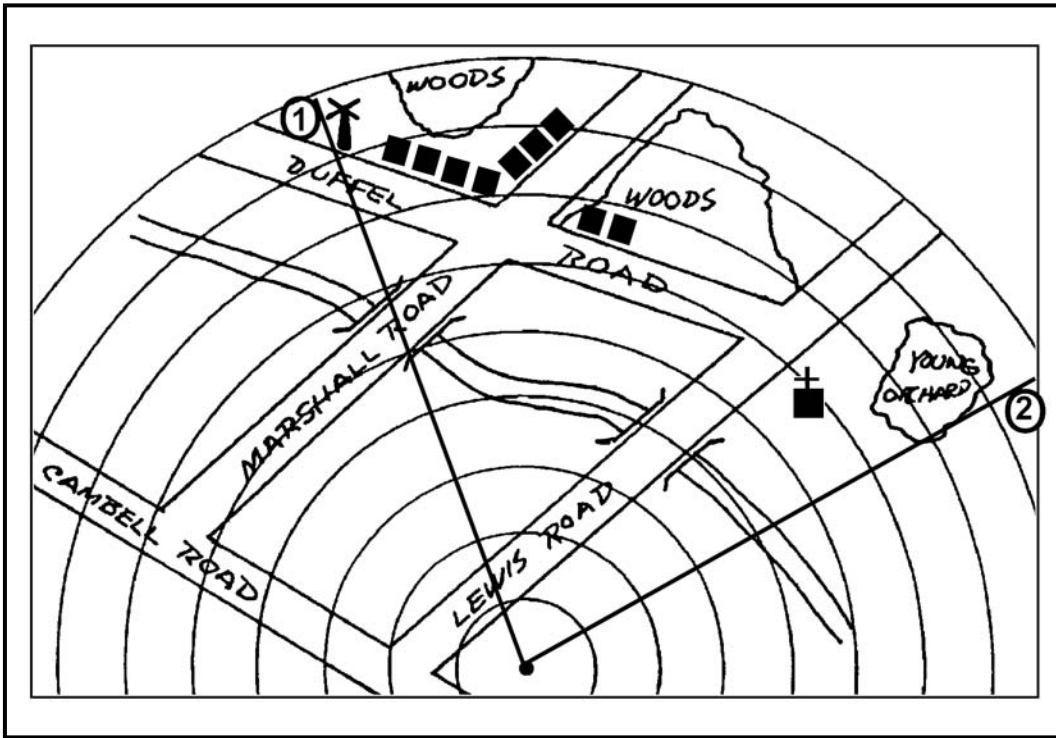

Figure D-3. Labeling sector of fire.
b. Draw lines from the weapon position (indicated by the black dot at lower center of range card) to show the right and left limits. Place a number 1 at the end of the left limit line and draw a circle around the number. Place a number 2 at the end of the right limit line and draw a circle around the number (Figure D-3, page D-4).